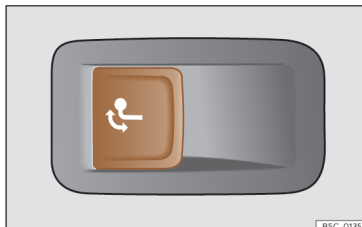

Fig. 192 On the left side of the luggage compartment: button for unlocking the tow hook.
- Pull the »» » **Fig. 192** button briefly. The tow hook unlocks electrically and automatically turns outwards. The button's control lamp flashes.
- Pull the »» » **Fig. 192** button briefly. The tow hook unlocks electrically.
- If the warning light on the button »» » **Fig. 192** → flashes, this means that the »
• If the warning lamp » » Fig. 192 → remains on with the rear lid open, the tow hook is correctly in place both when extracted and when covered.
- Never press the » » Fig. 192 button when there is a trailer hooked to the vehicle or when a carrier system or other accessories are mounted on the tow hook.